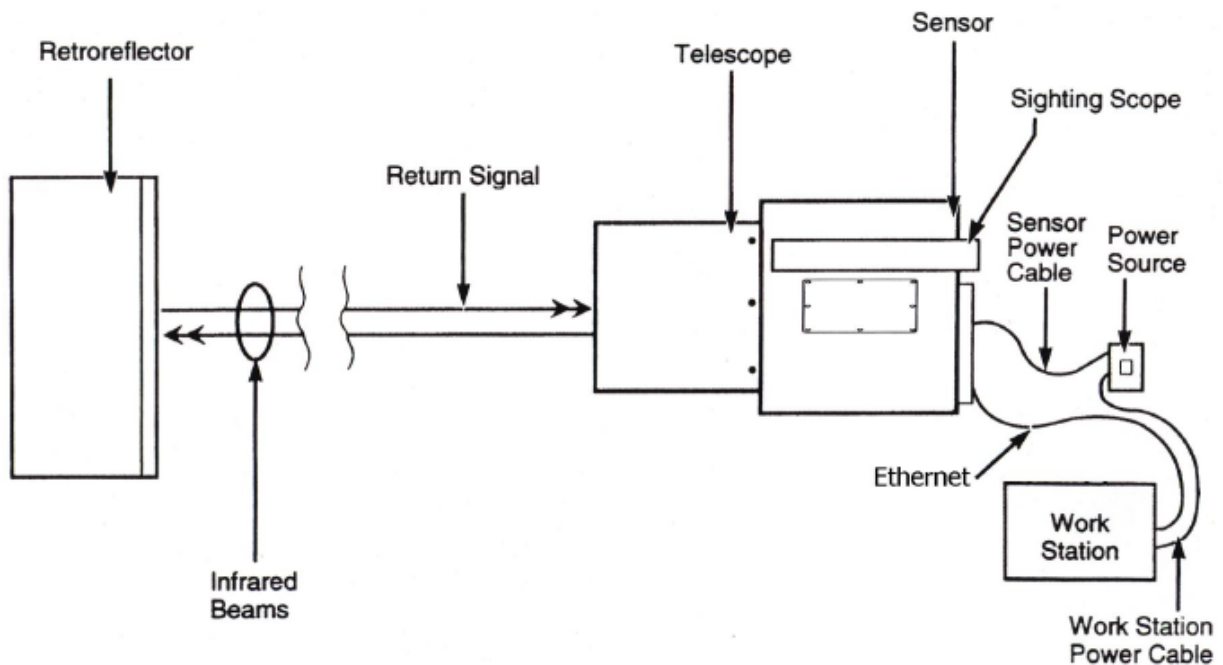

Figure 1. Schematic of the instrument.
The CEREX AirSentry FTIR monitoring system uses infrared (IR) light for gas detection. The system works by first generating IR radiation from an extremely hot Globar source. The light from the source is directed down the open path using a Cassegrain long-path telescope. When the light reaches the opposite end of the path, it is reflected using a retroreflector array back to the telescope, which then receives the light and sends it to the detector. The IR detection system is based on a Michelson Interferometer with a cooled Mercury Cadmium Telluride (MCT) or Deuterated TriGlycine Sulfate (DTGS) detector. A schematic of the CEREX AirSentry FTIR monitoring system is shown in Figure 1.